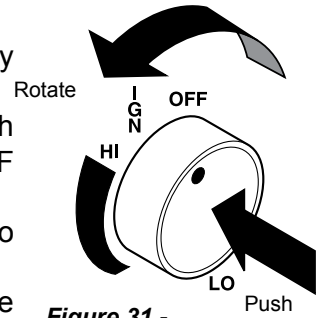

Figure 31 - IGN Position
6. From OFF position, push in gas control knob slightly and turn counterclockwise to the IGN position. Figure 31. Push in and hold control knob for 5 seconds.